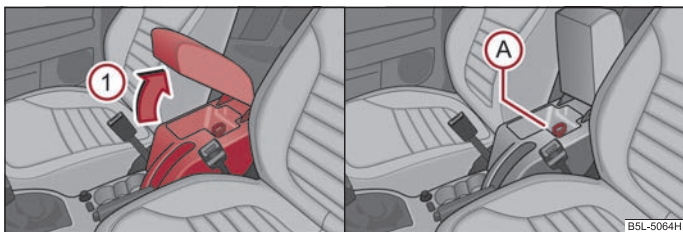

Fig. 96 Armrest: Storage compartment/cooling of storage compartment
- Open the lid of the armrest in the direction of arrow ① ⇒ fig. 96.